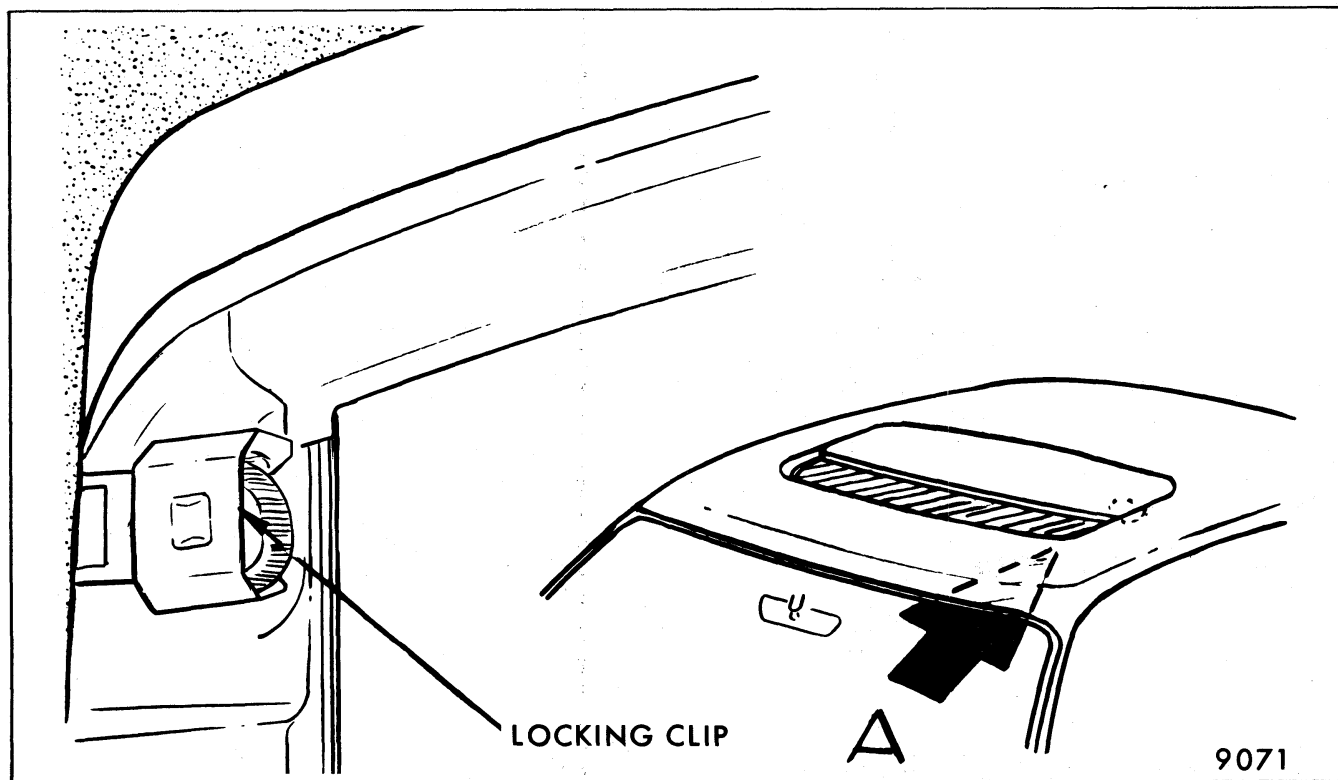

Fig. 8-76-Sun Roof Panel Front Guide Locking Clip Location
3. Remove locking clip by pulling inboard (Fig. 8-76).
4. Install locking clip over front guide adjusting nut (Fig. 8-76).